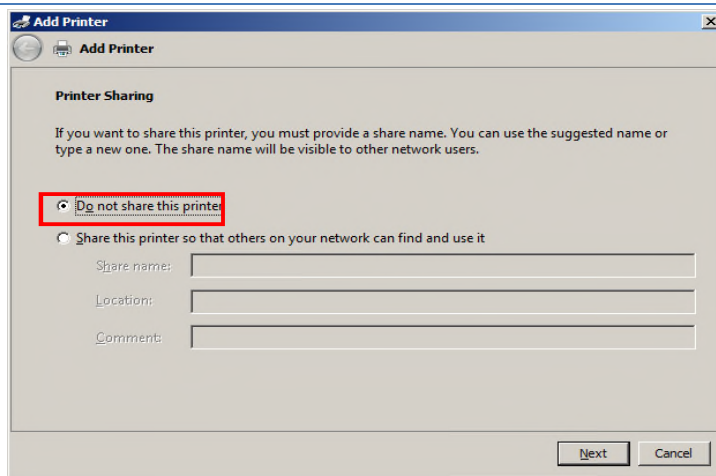

Figure 10.25 – Set for no Share
- 5) Select **Add a printer** from the menu at the top of the window. (see figure 10.25) below